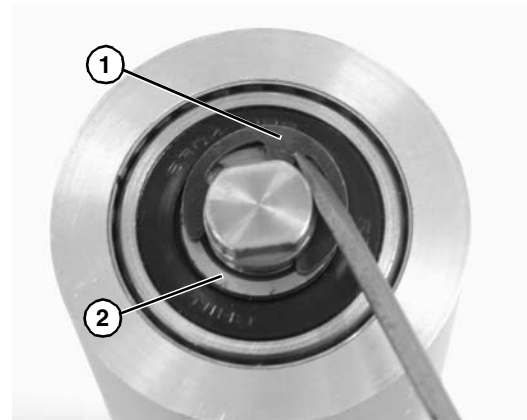

Figure 74
6. Remove the pulley shaft assembly: remove the clip ring (**Figure 74, item 1**) and washer (**Figure 74, item 2**) from one side of the pulley assembly.